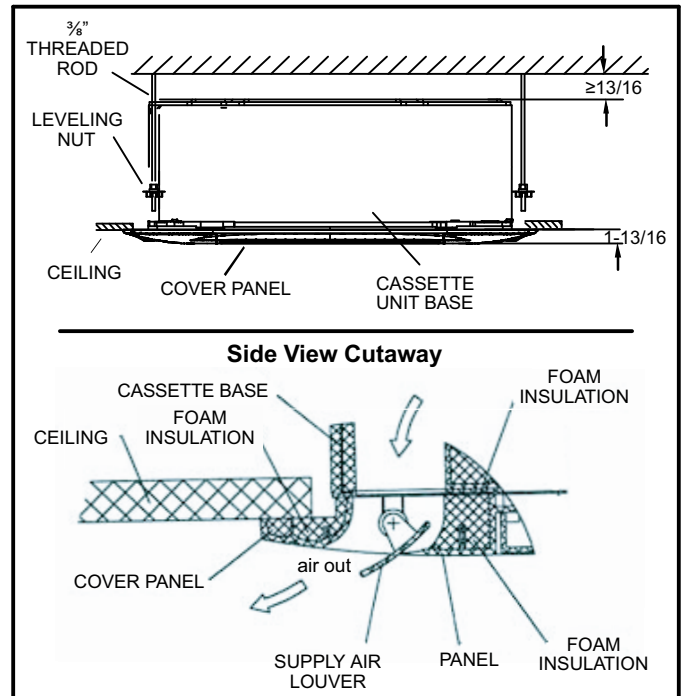

Figure 16. Cover Panel in Place
- 7 - Use the provided screws to secure the cover panel to the unit base. Continue to tighten the cover panel securing screws until the insulation between the cover panel and the cassette base has been compressed to approximately 1/4". The cover panel must form a seal with the ceiling and the cassette base around the entire perimeter of the unit. See figure 16.